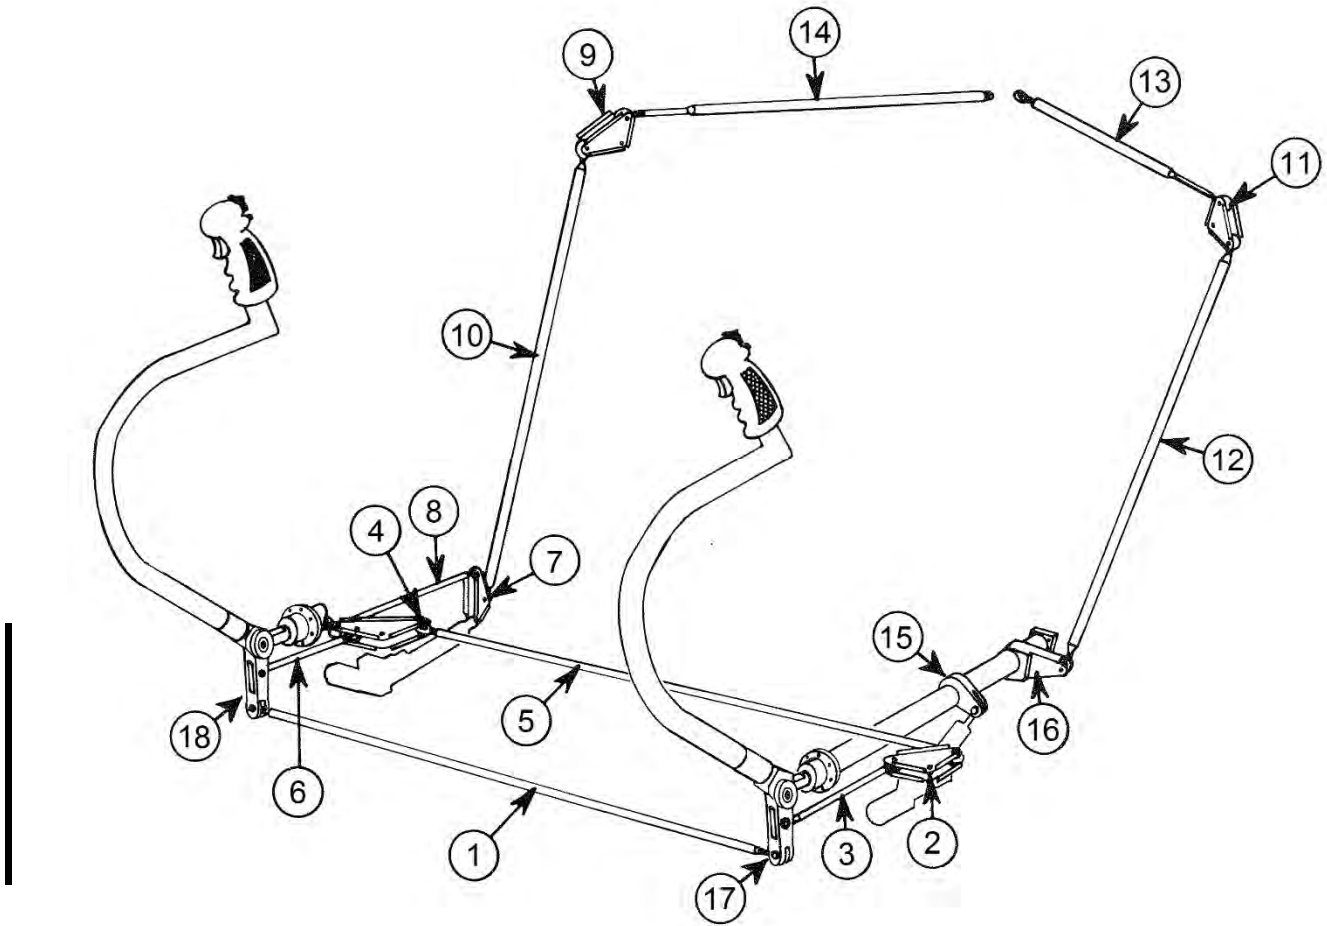

Figure 12-12. Cyclic Rigging Chart
A. Preliminary Rigging (Figure 12-12)
4. Disconnect control rods (13) and (14) from bellcranks (9) and (11).
B. Cyclic Rigging – Seat Deck Area (Figure 12-12)
1. Adjust rod (1) connecting the cyclic stick bellcranks until the bellcranks (17) and (18) are centered laterally in the stop ring hole. Secure the check nuts.
3. Connect rod (13) to the swashplate. Adjust the length of rod (13) until the attachment bolt slides freely into the bellcrank (11) (Figure 12-12). Install spacers and mount hardware. Secure the check nuts and hardware. See paragraph 12-10, E, for hardware attachment to the swashplate.
4. Connect rod (14) to the swashplate. Adjust the left hand rod end HMLVV5M at bellcrank (9) until the attachment bolt slides freely into the bellcrank (Figure 12-12). Install spacers and mount hardware. Secure the check nuts and hardware. See paragraph 12-10, E, for hardware attachment to the swashplate.
NOTE: The 90° position is to the right side of the helicopter. The 97° position may be checked by observing that the dog leg rod end bearing controlling the #1 blade is directly over and in line with rod (14) of Figure 12-12, Cyclic Rigging.
NOTE: The 90° position is to the right side of the helicopter. The 97° position may be checked by observing that the dogleg rod end bearing controlling the #1 blade is directly over and in line with rod (14) of Figure 12-12.
NOTE: If adjustments are required, adjust the left hand rod end HMLVV5M on rod (14) (Figure 12-12).
5. Rotate the main rotor hub until the dog leg rod end bearing controlling the #1 blade is directly over and in line with rod 13) of Figure 12-12, Cyclic Rigging.
NOTE: If adjustments are required, adjust rod (13) (Figure 12-12).